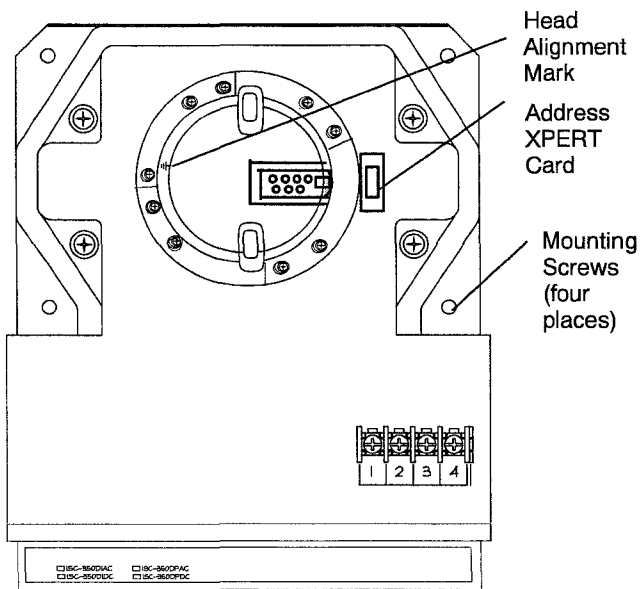

Figure 4: Detector Base and Connections for ISN-550 Series.
3. Mount the housing using the (4) #12 x 1/2-inch sheet metal screws. See Figure 4.